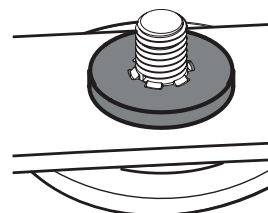

Fig. 57
2. Carefully place the flat washer on the spindle shaft. Be sure that the splines at the base of the spindle shaft threads line up with the washer splines (Fig. 57).